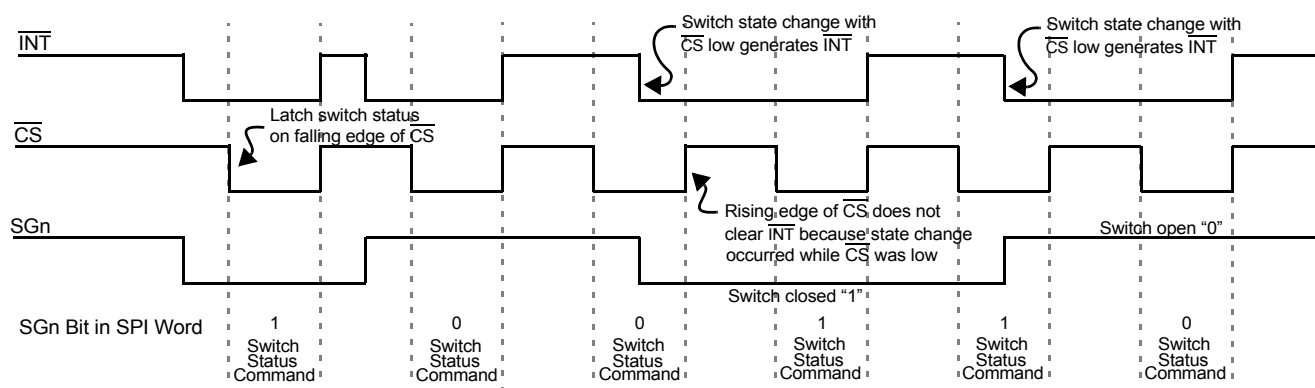

Figure 6. Normal Mode Interrupt Operation
1. $\overline{INT}$ terminal is reset to logic [1], except when additional switch changes occur during $\overline{CS}$ low (see Figure 6, page 10).
Figure 6, page 10, is a graphical description of the device operation in Normal mode. Switch states are latched into the input register on the falling edge of $\overline{\text{CS}}$. The $\overline{\text{INT}}$ to the MCU is cleared on the rising edge of $\overline{\text{CS}}$. However, $\overline{\text{INT}}$ will not clear on rising edge of $\overline{\text{CS}}$ if a switch has closed during SPI communication ($\overline{\text{CS}}$ low). This prevents switch states from being missed by the MCU.